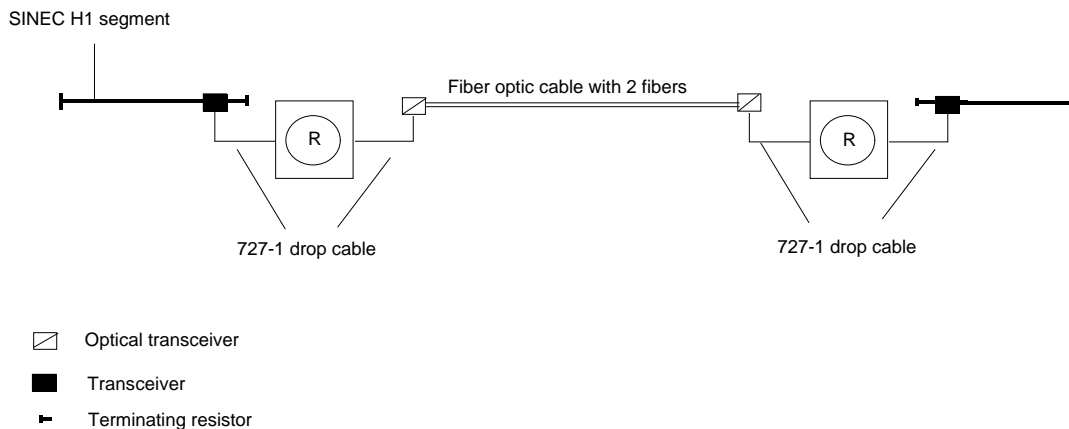

Fig. 2.10: Remote Repeater Configuration
A remote repeater consists of two local repeaters connected by a link segment of up to 1000m in length (see Fig. 2.10).
- Segments are connected using local repeaters or remote repeaters. A remote repeater configuration as shown in figure 2.10 counts as one repeater unit.